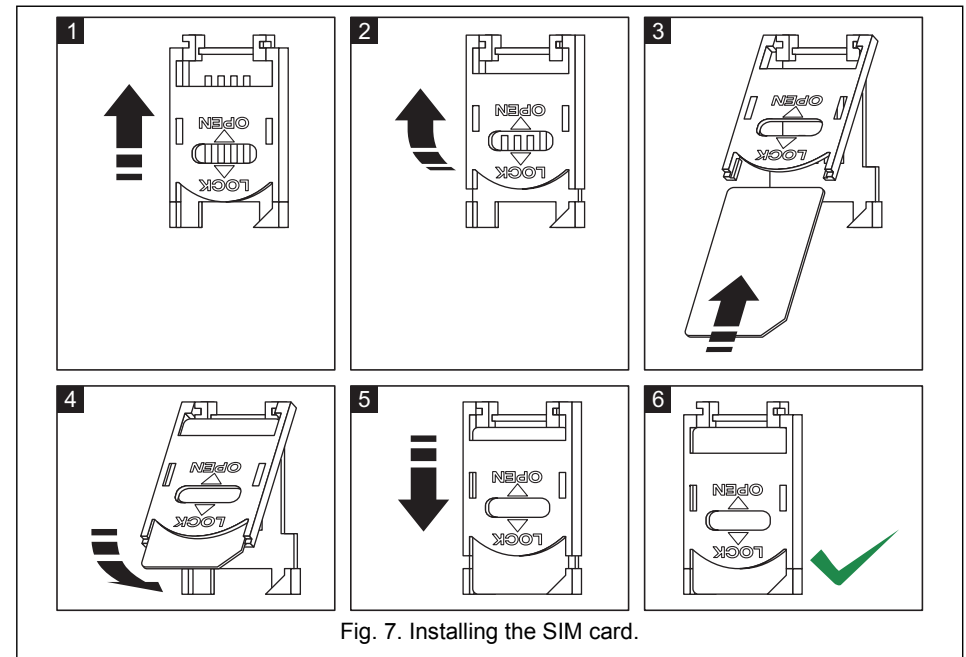

Fig. 7. Installing the SIM card.
11. Insert the SIM card into the socket (see: Fig.7).